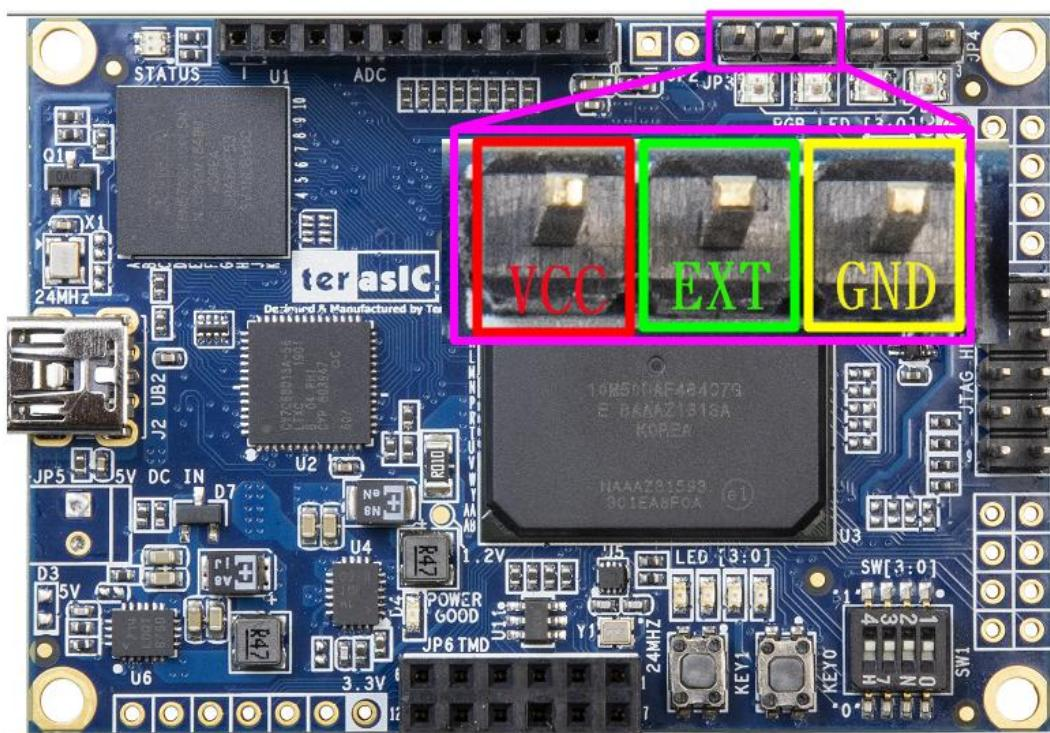

Figure 3-7 External RGB LED connection diagram
- As shown in **Figure 3-7**, connect the external RGB LED strip to the JP3 or JP4 port of T-Core board, the pin marked with red box is connected to VCC, the pin marked with green box is connected to the signal, the pin marked with yellow box is connected to GND.